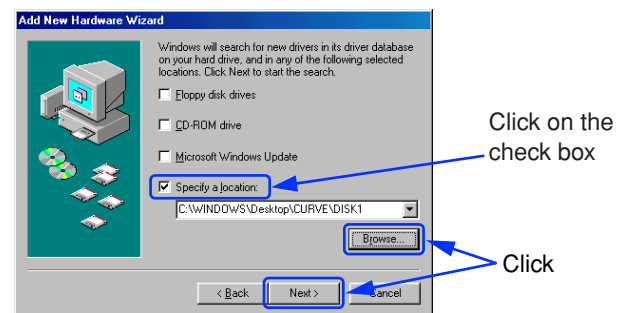

Fig. 4
- ⑪ Click on the check box [Specify a location:] and click [Browse...]. Specify [Driver] folder of the supplied CD-ROM and click [Next >]. (Fig. 4)